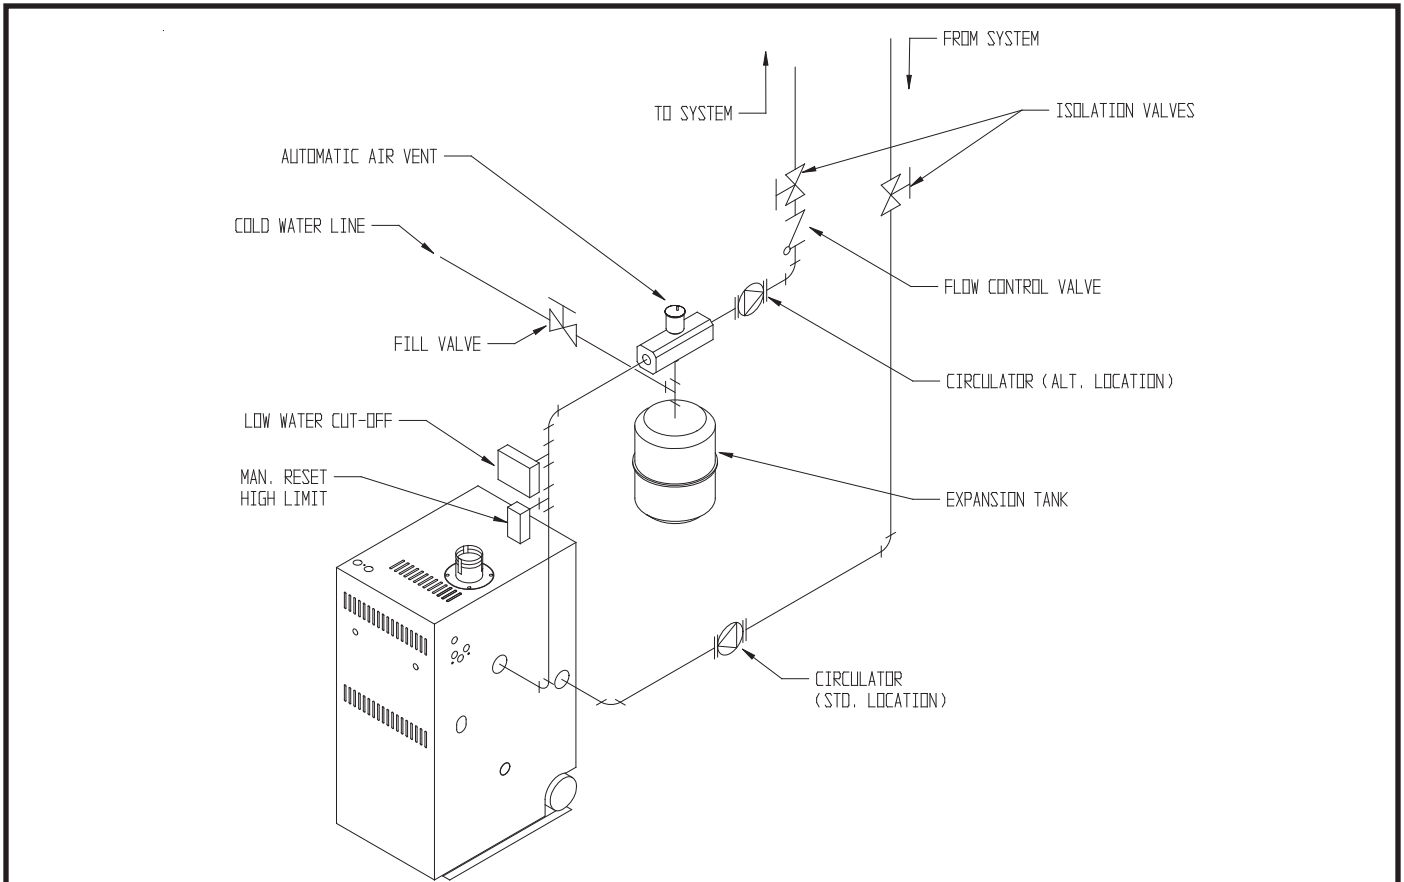

FIGURE 26: BASIC PIPING
Figure 26 shows typical boiler system connections on a single zone system. Additional information on hydronic system design may be found in *Installation of Residential Hydronic Systems* (Pub. #200) published by the Hydronics Institute in Berkeley Heights, NJ. The components in this system and their purposes are as follows:
- 2) **Circulator (Required)** – Although the circulator is shipped on the boiler return, it can be installed on the boiler supply. If the circulator is moved to the supply it should be positioned just downstream of the expansion tank as shown in Figure 26.